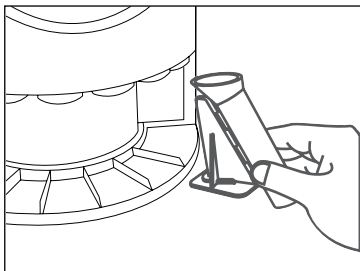

Figure 2 - Installing coin tube
3. Attach the coin tubes to the KCS-2000 by gently sliding each tube into the proper slot in the base of the machine as shown in Figures 2 and 3.